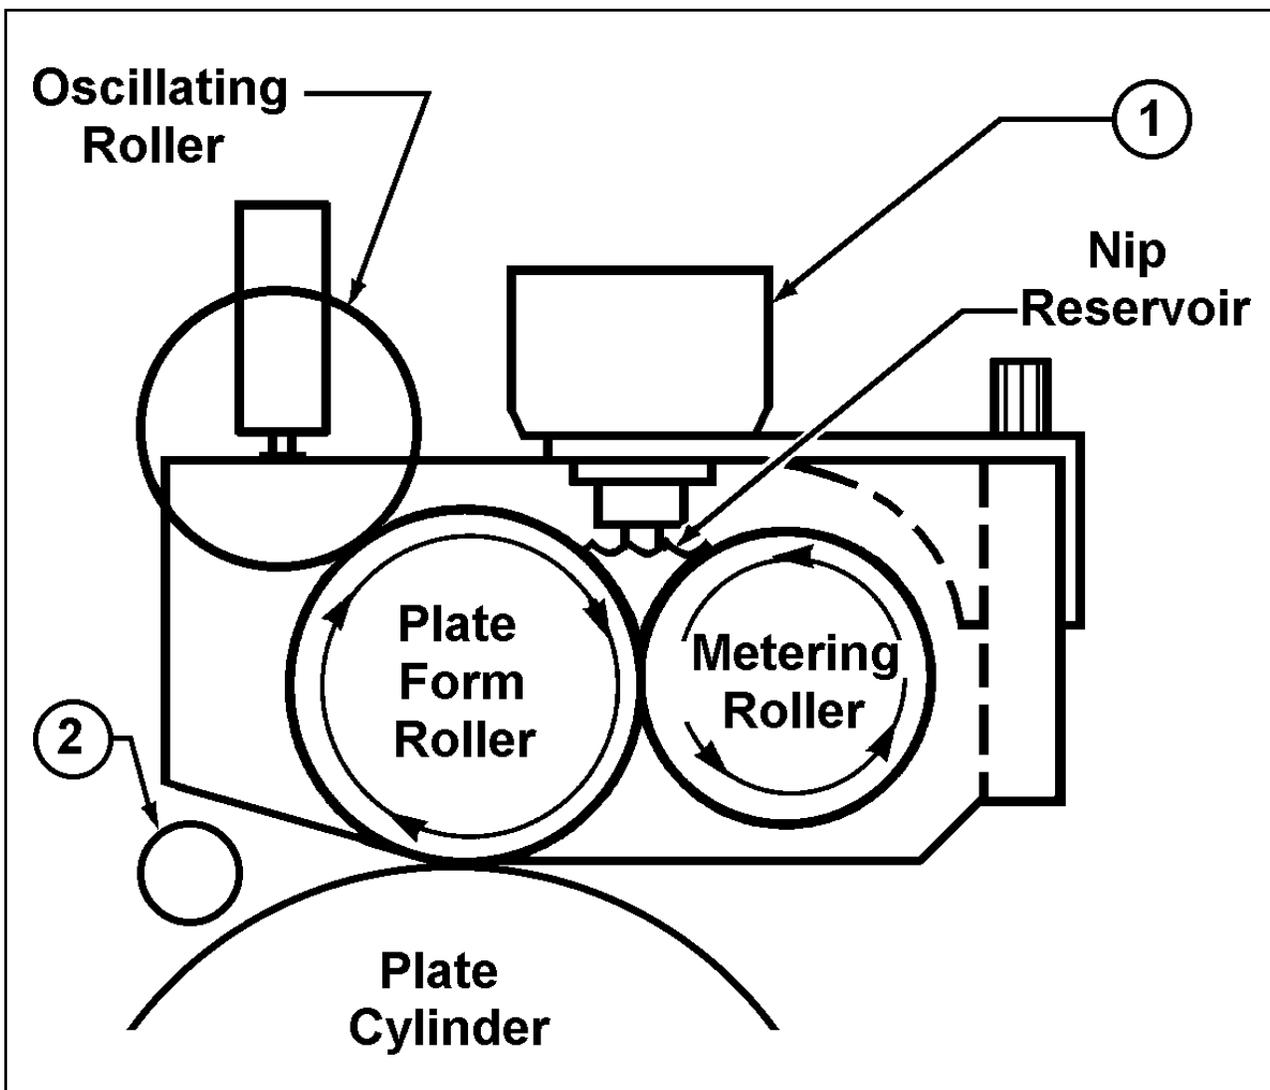

Figure 5 - 9910D Non-Motorized Continuous Dampener
1. Fountain solution flows from the bottle through the tubing to the filler valve assembly (1) (see Figure 5). The solution fills the nip between the plate form roller and the metering roller when the fluid level reaches the bottom of the filler valve (1). Air flow is shut off and the further flow of solution is prevented.
2. The dampener is controlled through the operator control lever. Movement of the lever in a clockwise direction rotates the eccentric dampener shaft (2), lowering the assembly into contact with the plate. Water control is automatically increased with the speed of the press, since the dampener is driven by the master cylinder.